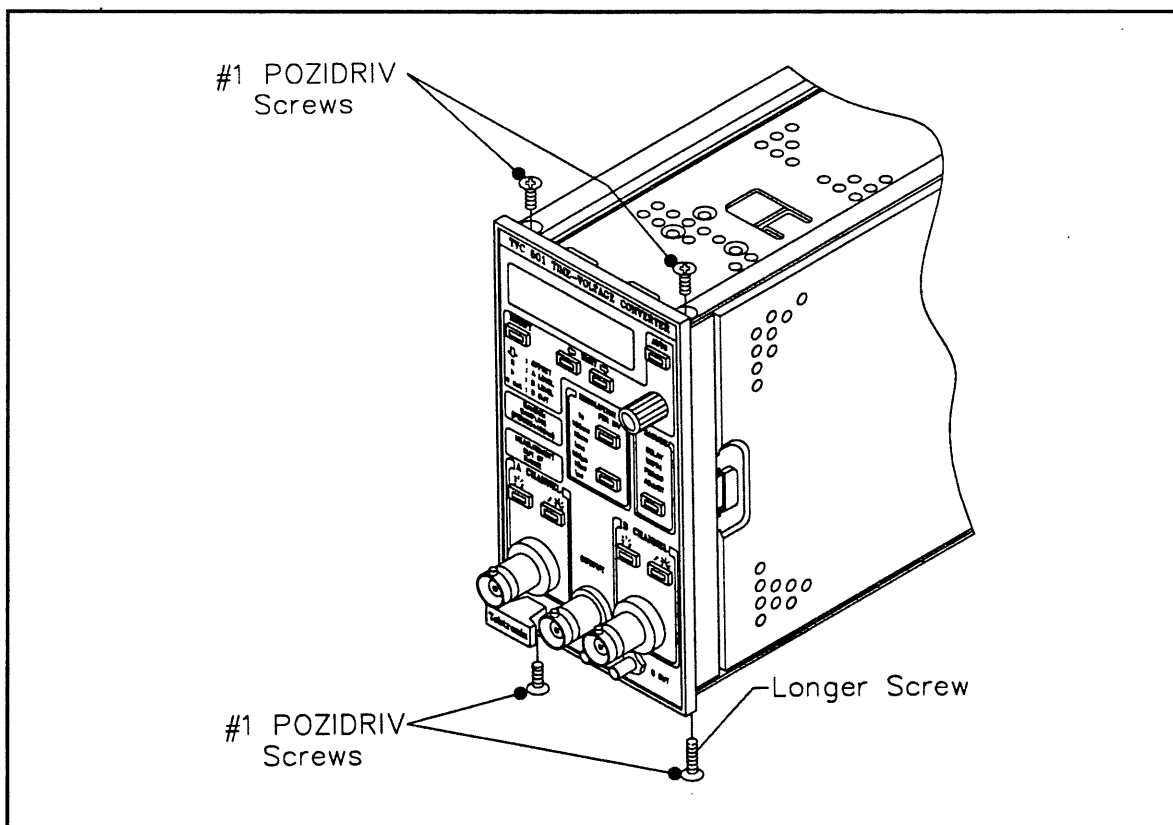

Figure 5-9. Removal of Front Panel Assembly.
2. Using a #1 POZIDRIV screwdriver, remove the four screws that attach the front panel to the chassis. See Figure 5-9.